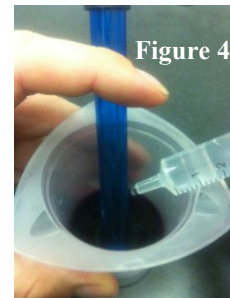

Figure 4
6. Place SO₂ electrode into the titration vessel. Stir or swirl constantly holding electrode in place. (Figure 4).